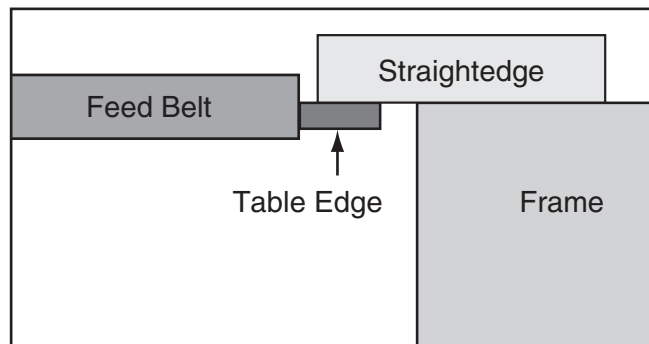

Figure 58. Bottom edge of frame and table edge flush.
- Adjust the table height using the handwheel, so the table and frame are flush with the bottom of the straightedge, as shown in **Figure 58**.